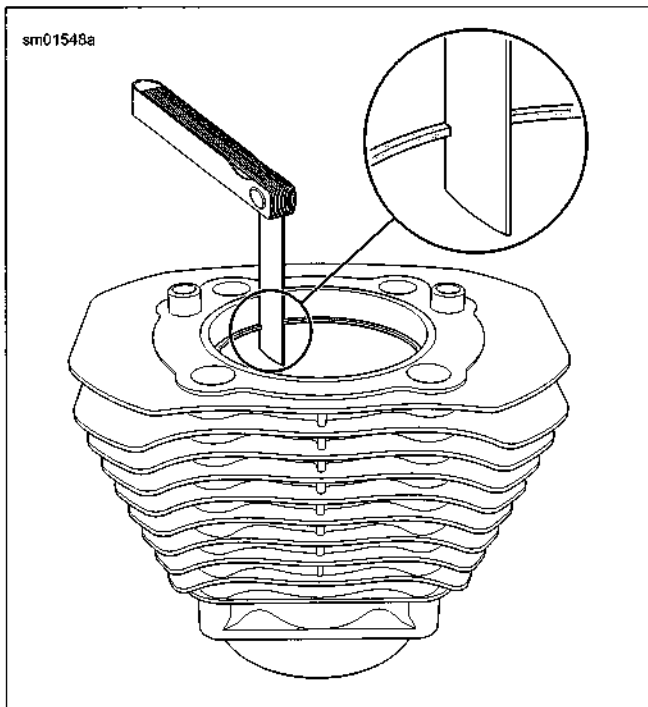

Figure 3-53. Measuring Ring End Gap
- See Figure 3-53. Place piston in cylinder about 1/2 in (13 mm) from top. Set ring to be checked inside cylinder, squarely against piston. Remove piston and check ring end gap with thickness gauge. See 3.2 SPECIFICATIONS.